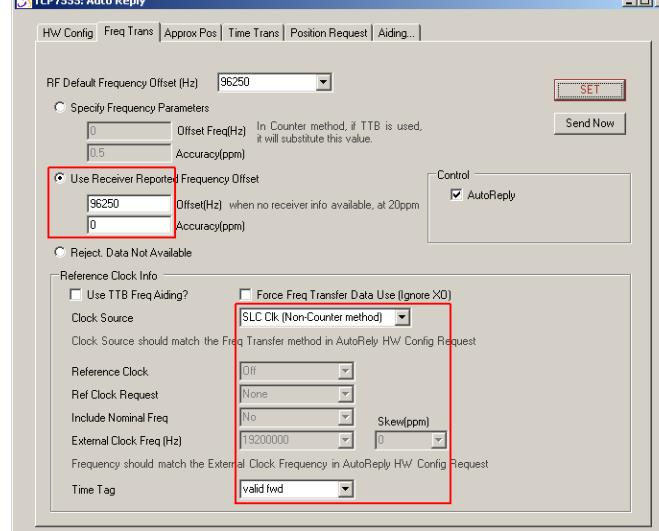

Figure 7.47: Non-Counter: Frequency Transfer Settings
- Frequency Transfer set as in Figure 7.47.